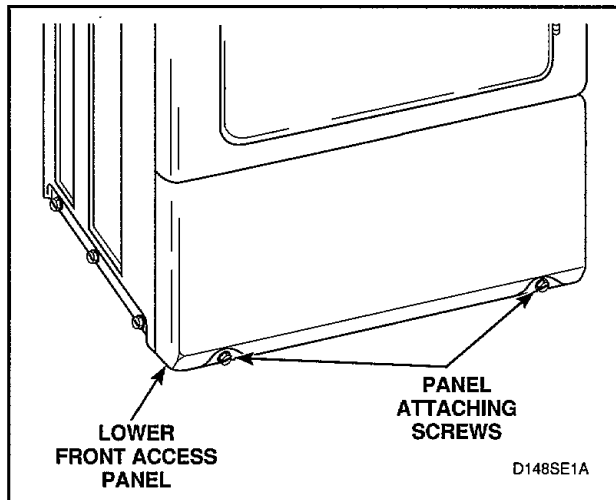

Figure 50
- While supporting the lower access panel, remove two screws from bottom edge of lower front access panel, *Figure 50*.
- a. While supporting the lower access panel, remove two screws from bottom edge of lower front access panel, *Figure 50*.